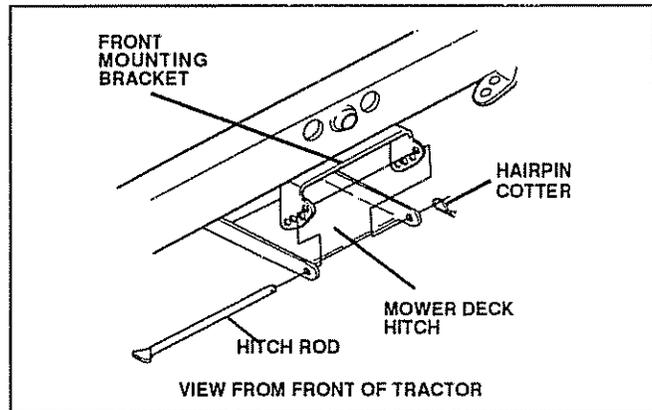

FIG. 21
- Remove hairpin cotter from mower deck hitch and remove deck hitch rod from top holes of the front mounting bracket (see Fig. 21).
- Remove hitch rod and hairpin cotter from front mounting bracket and lay aside (see Fig. 21).